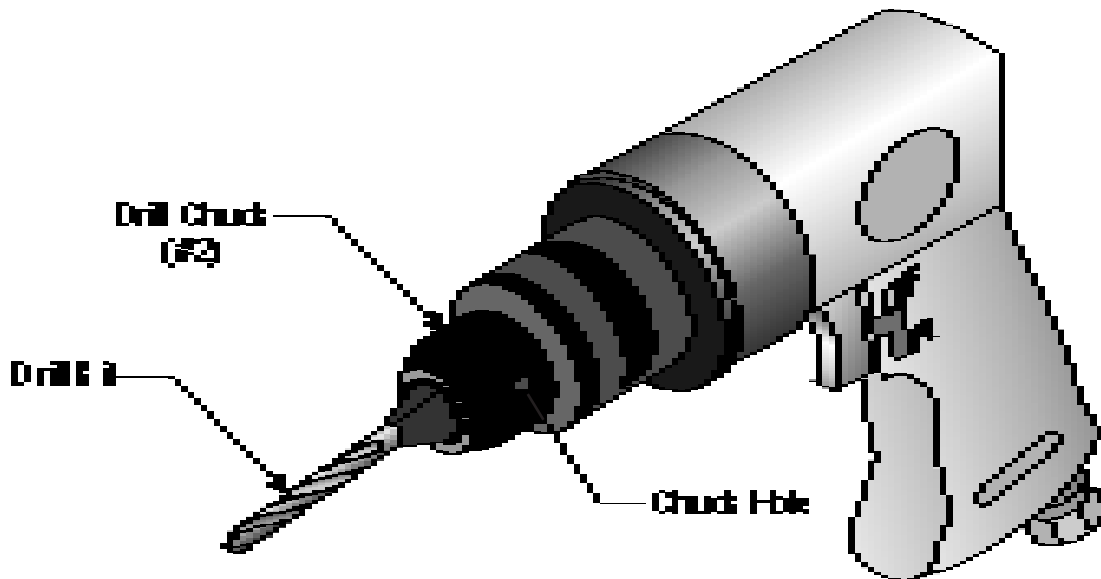

Figure 3 — Using the Chuck to Tighten the Jaws
Step 5: Insert the Chuck Key into one of the three chuck holes in the DRILL CHUCK as shown in Figure 3, mating the teeth of the Chuck Key with the teeth of the DRILL CHUCK.